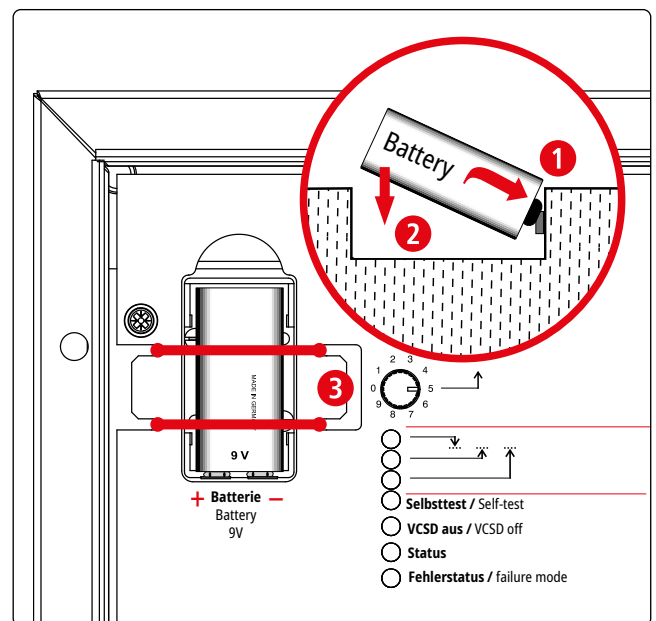

Figure 8 Battery compartment
- ➔ To remove the battery, take out the O-ring first and then tilt out the battery (see Fig. 8, page 10).
The VCSD is supplied with a 9V block battery (Part No. 923099) in the battery compartment in an uncontacted state. Before commissioning remove the protective strip from the +/- poles of the battery. Only then can the battery be properly inserted and connected as shown in Fig. 8.
To secure **3** the battery, the O-ring must be reapplied (see Fig. 8).